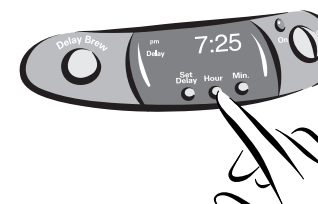

FIGURE A-1
- 1) Press and hold the HOUR button until the clock displays the correct hour. See Figure A-1.